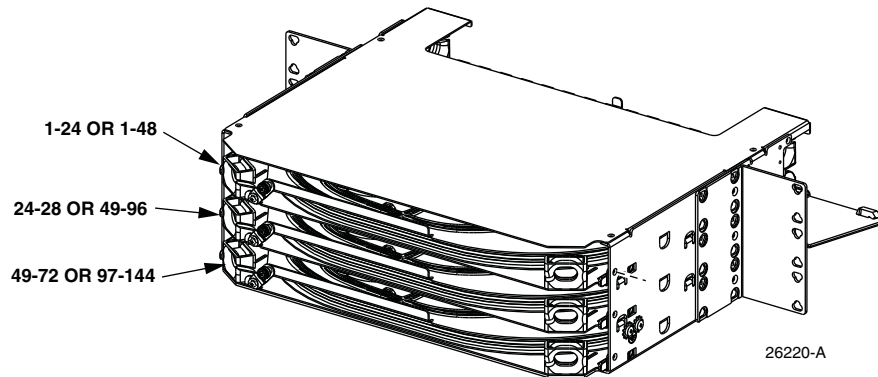

Figure 46. Aligning RapidReel Cable Spool Tray with Mounting Slot (3RU Panel Shown for Reference)
6. Align the cable spool tray with the mounting slot, as shown in Figure 46, and carefully slide the cable spool tray into the mounting slot until the stop is reached.